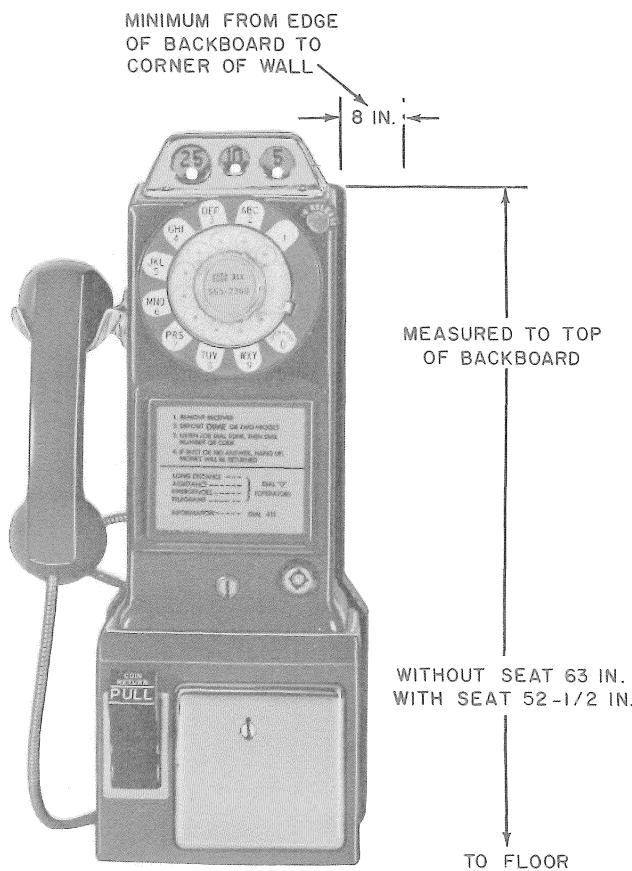

Fig. 17—Suggested Mounting Height and Clearance
- 4.15** Fig. 17 shows the suggested mounting height and clearance for all coin stations. Stations may be mounted at other heights to meet local conditions providing this does not create service or maintenance problems.